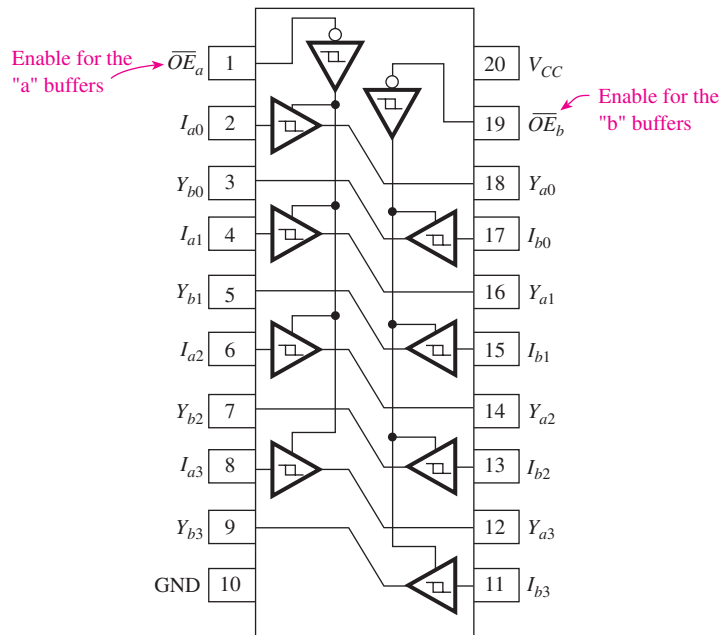

Figure 13–31 Pin configuration for the 74LS244 three-state octal buffer.
A popular three-state octal buffer is the 74LS244 shown in Figure 13–31. Notice that the buffers are configured in two groups of four. The first group (group a) is controlled by \overline{OE}_a , and the second group (group b) is controlled by \overline{OE}_b . OE is an abbreviation for **Output Enable** and is active-LOW, meaning that it takes a LOW to allow data to pass from the inputs (I) to the outputs (Y). Other features of the 74LS244 are that it has Schmitt trigger hysteresis and very high sink and source current capabilities (24 and 15 mA, respectively).